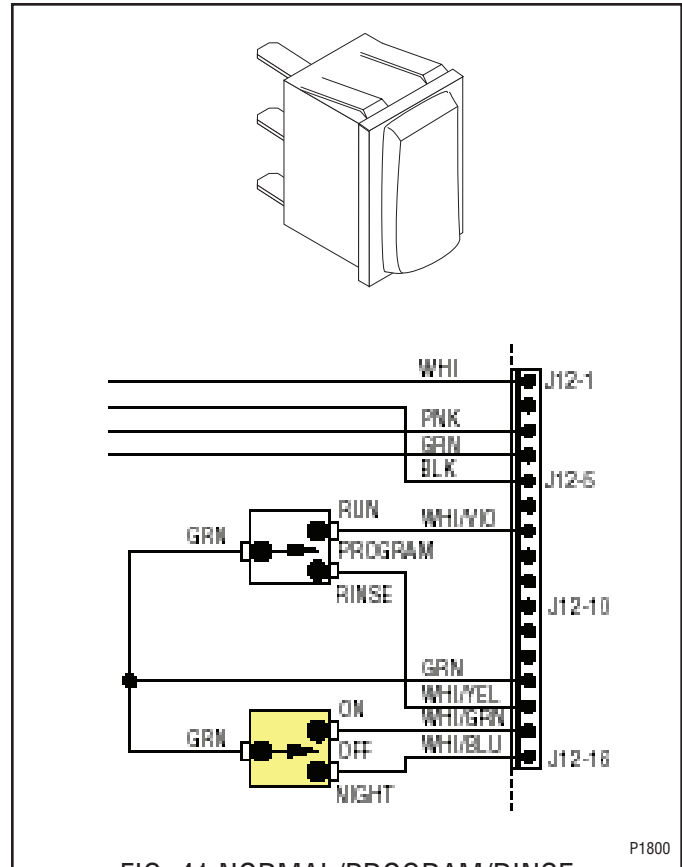

FIG. 41 NORMAL/PROGRAM/RINSE SWITCH TERMINALS
4. Refer to Fig. 41 when reconnecting the wires.